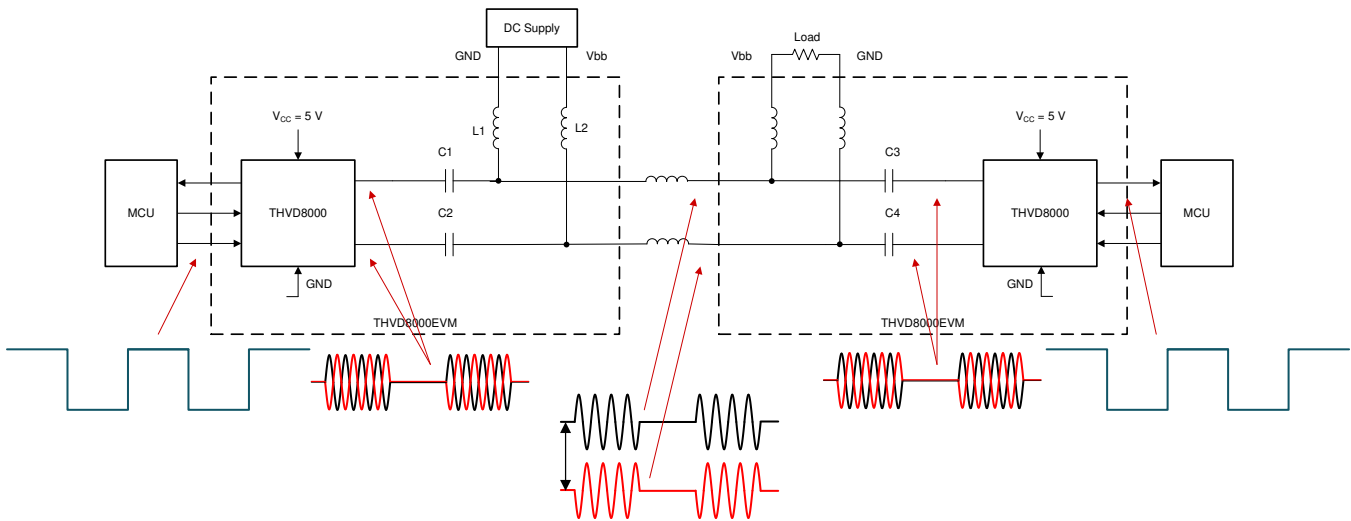

Figure 1. THVD8000 Operation
In the block diagram (Figure 1), a point to point communication is set up with two THVD8000EVM boards to demonstrate the THVD8000 functionality. In this test, the input TTL data from a microcontroller (MCU) is OOK modulated by THVD8000. The input low is converted to a high frequency clock signal, while the input high stays as a DC voltage. The signal is carried with DC power on the same bus for transmitting. The device in the receiver side demodulates the differential signal to digital domain, while the power is separated to drive the load.
- (Optional) Connect V_{bb} and GNB through V_{bb} and GNB connectors for power delivery. Short the shunt TL_A and TL_B to connect the inductor to bus. The maximum DC current rating of the populated inductor on the EVM is 1.9 A. The voltage rating of the populated capacitor is 100 V. On the transmitting board, V_{bb} and GNB connect to the power source, like a 12 V DC. On the receiving board, V_{bb} and GNB connect to the loading circuit (Figure 1). The received power may have a lower voltage level due to the cable loss.